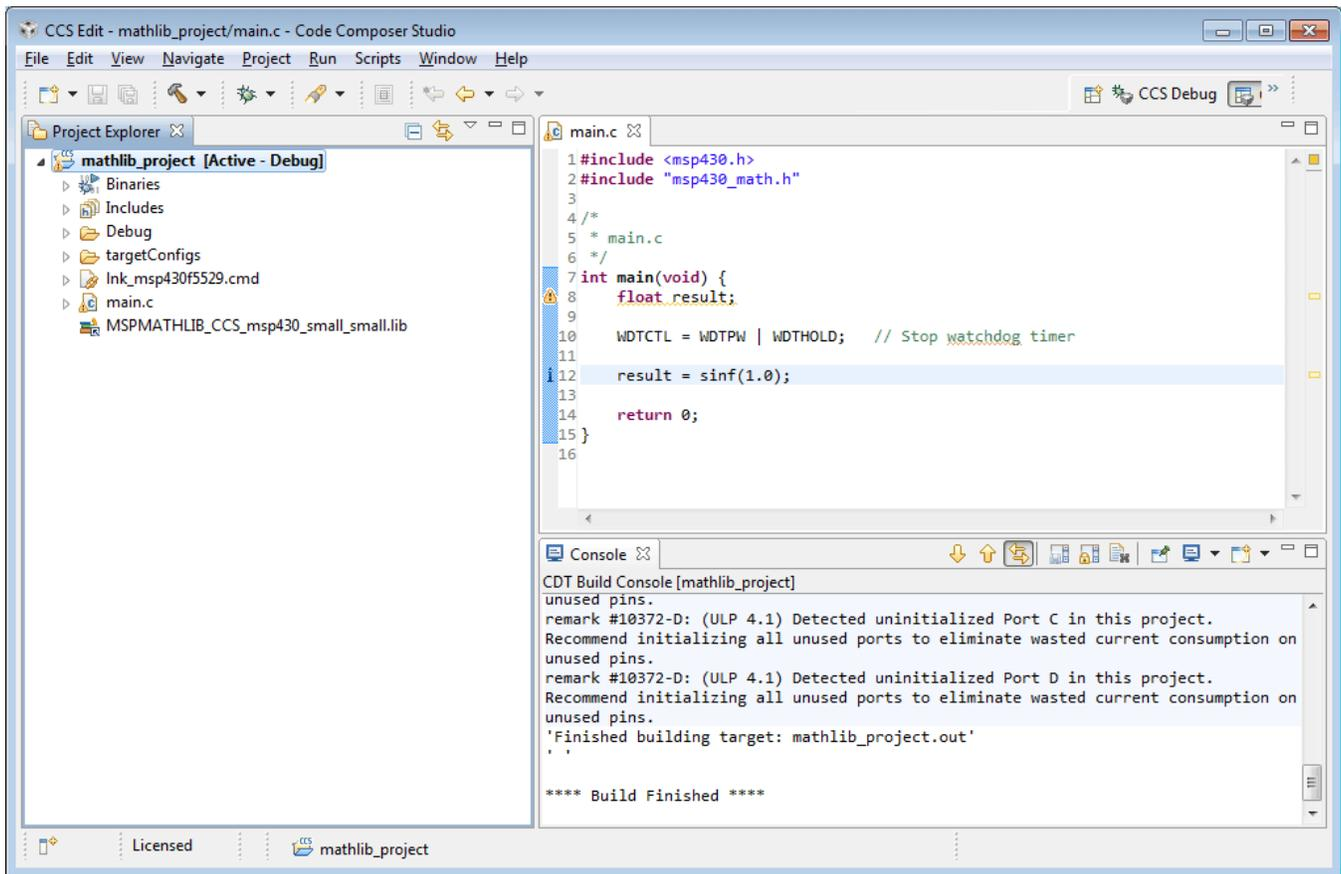

Figure 6. Build Project
7. You can now build the project (see Figure 6). The MSPMATHLIB functions are linked in place of the standard math.h functions. The function prototypes are identical and require no additional considerations when coding.